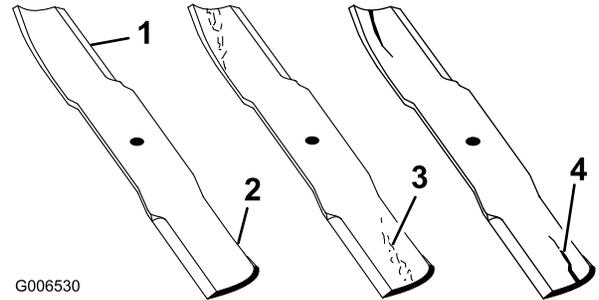

Figure 51
1. Inspect the cutting edges (Figure 51). If the edges are not sharp or have nicks, remove and sharpen the blades. Refer to Sharpening the Blades.
2. Inspect the blades, especially the curved area (Figure 51). If you notice any damage, wear, or a slot forming in this area (item 3. in Figure 51), immediately install a new blade.